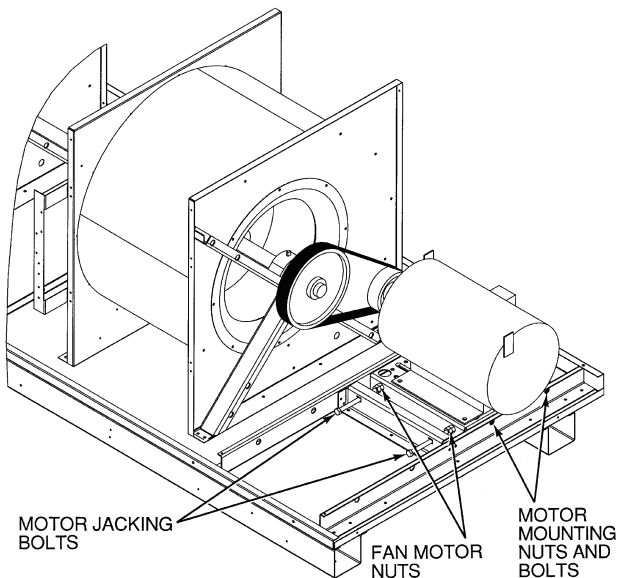

Fig. 38 — Belt Tension Adjustment
- Loosen motor mounting nuts and bolts. See Fig. 38.